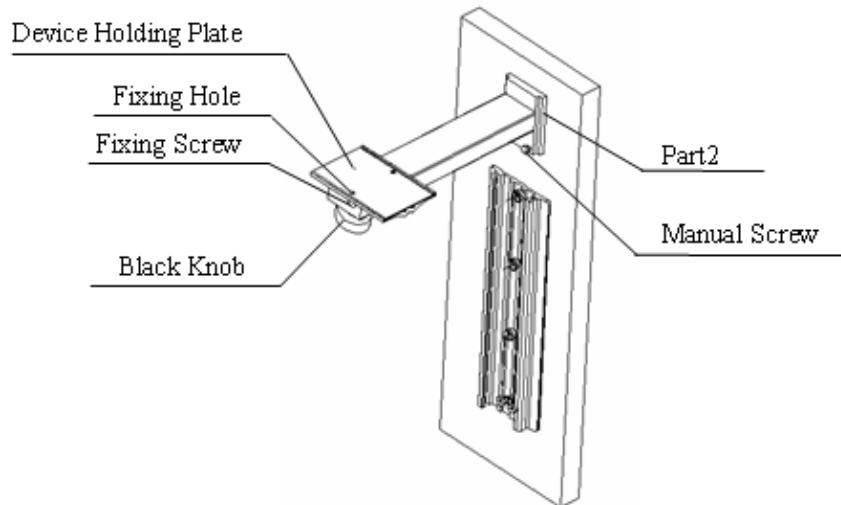

Figure 3-2
4. Slide the arm (part2) into channel (part1) as Figure 3-2 shows to the desired location.